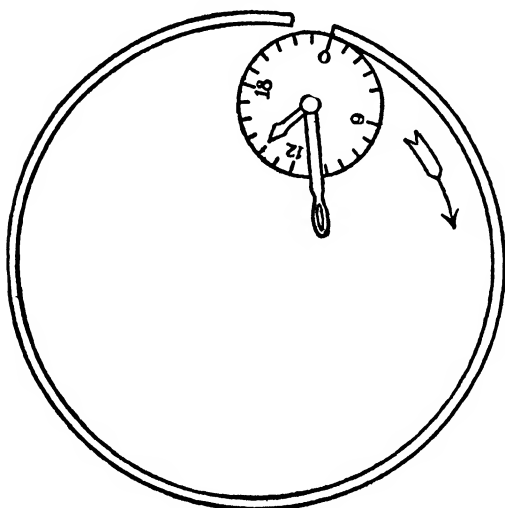

FIG. 71
9. Set the zero graduation mark of the measuring wheel even with the right end of the tire as you face the opening. Fig. 71.